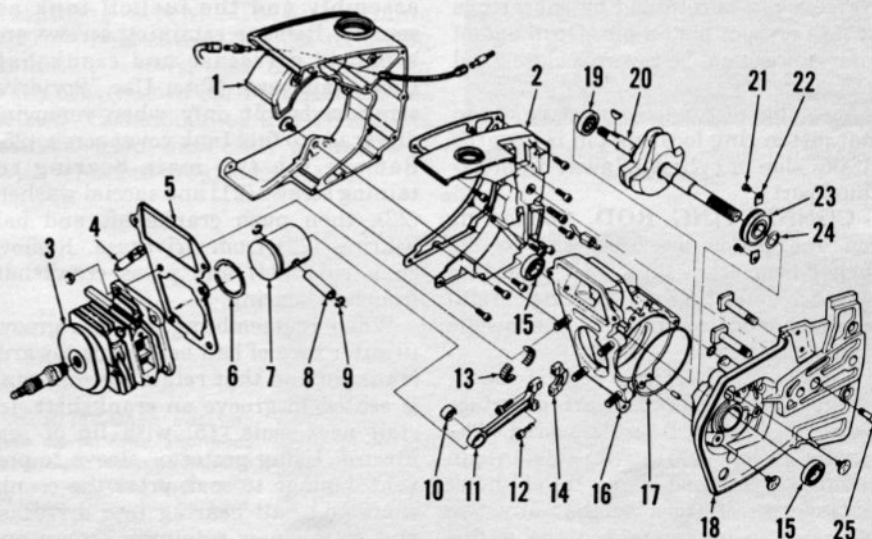

Fig. HL95—Exploded view of typical engine assembly.
CONNECTING ROD. Connecting rod and piston assembly can be detached from crankshaft after removing cylinder; refer to Fig. HL95. Be careful to remove all of the 28 loose needle bearing rollers.
CRANKSHAFT, BEARINGS AND SEALS. Crankshaft is supported by a roller bearing (19—Fig. HL95) mounted in crankcase bore and by a ball bearing (23) mounted in drivecase (18).
When throttle lock is pushed in, a lever connected to throttle lock lifts away from compression release valve (4—Fig. HL95). When engine is cranked, compression forces valve open and compression is partly relieved through port in cylinder. Squeezing throttle trigger after engine is running releases throttle lock, allowing spring (11—Fig. HL92) to snap lever against release valve, closing the valve.